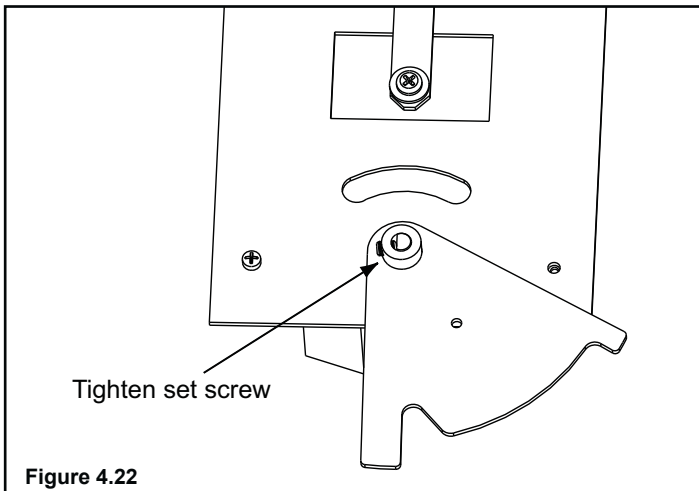

Figure 4.22
- Place linkage control arm over timer shaft and tighten set screw. Figure 4.22.